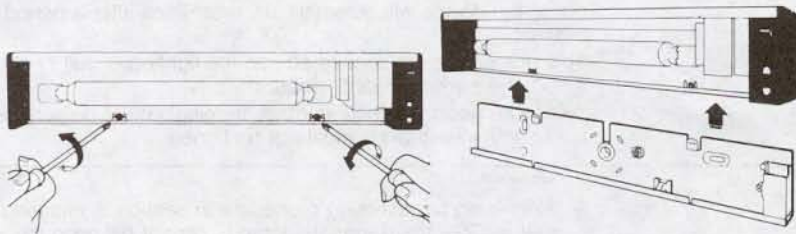
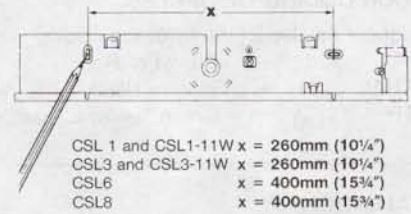
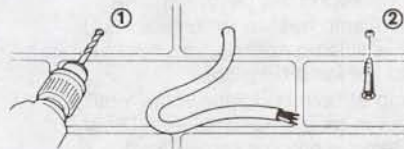

Fig. 5a
Fig. 5b
Fig. 6a
- Position backplate over incoming cable (Fig 6a) and mark fixing positions (Fig 5a). Drill fixing holes and securely fix backplate to mounting surface ensuring that incoming cable is not pinched between backplate and mounting surface (Fig 5b).